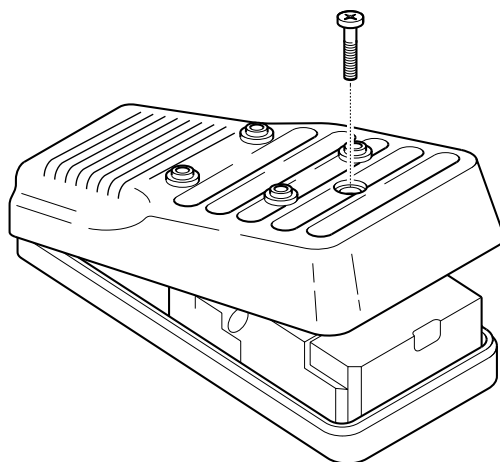

Figure 23: handset cover removal
4. Figure 23 Reinstall the front cover onto the handset assembly by reconnecting the speaker lead onto the handset. Then reinstall the cover securing screw.